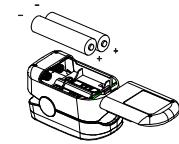

Figure 3. Battery Installation
B. Push the battery cover horizontally along the arrow shown as figure 3.